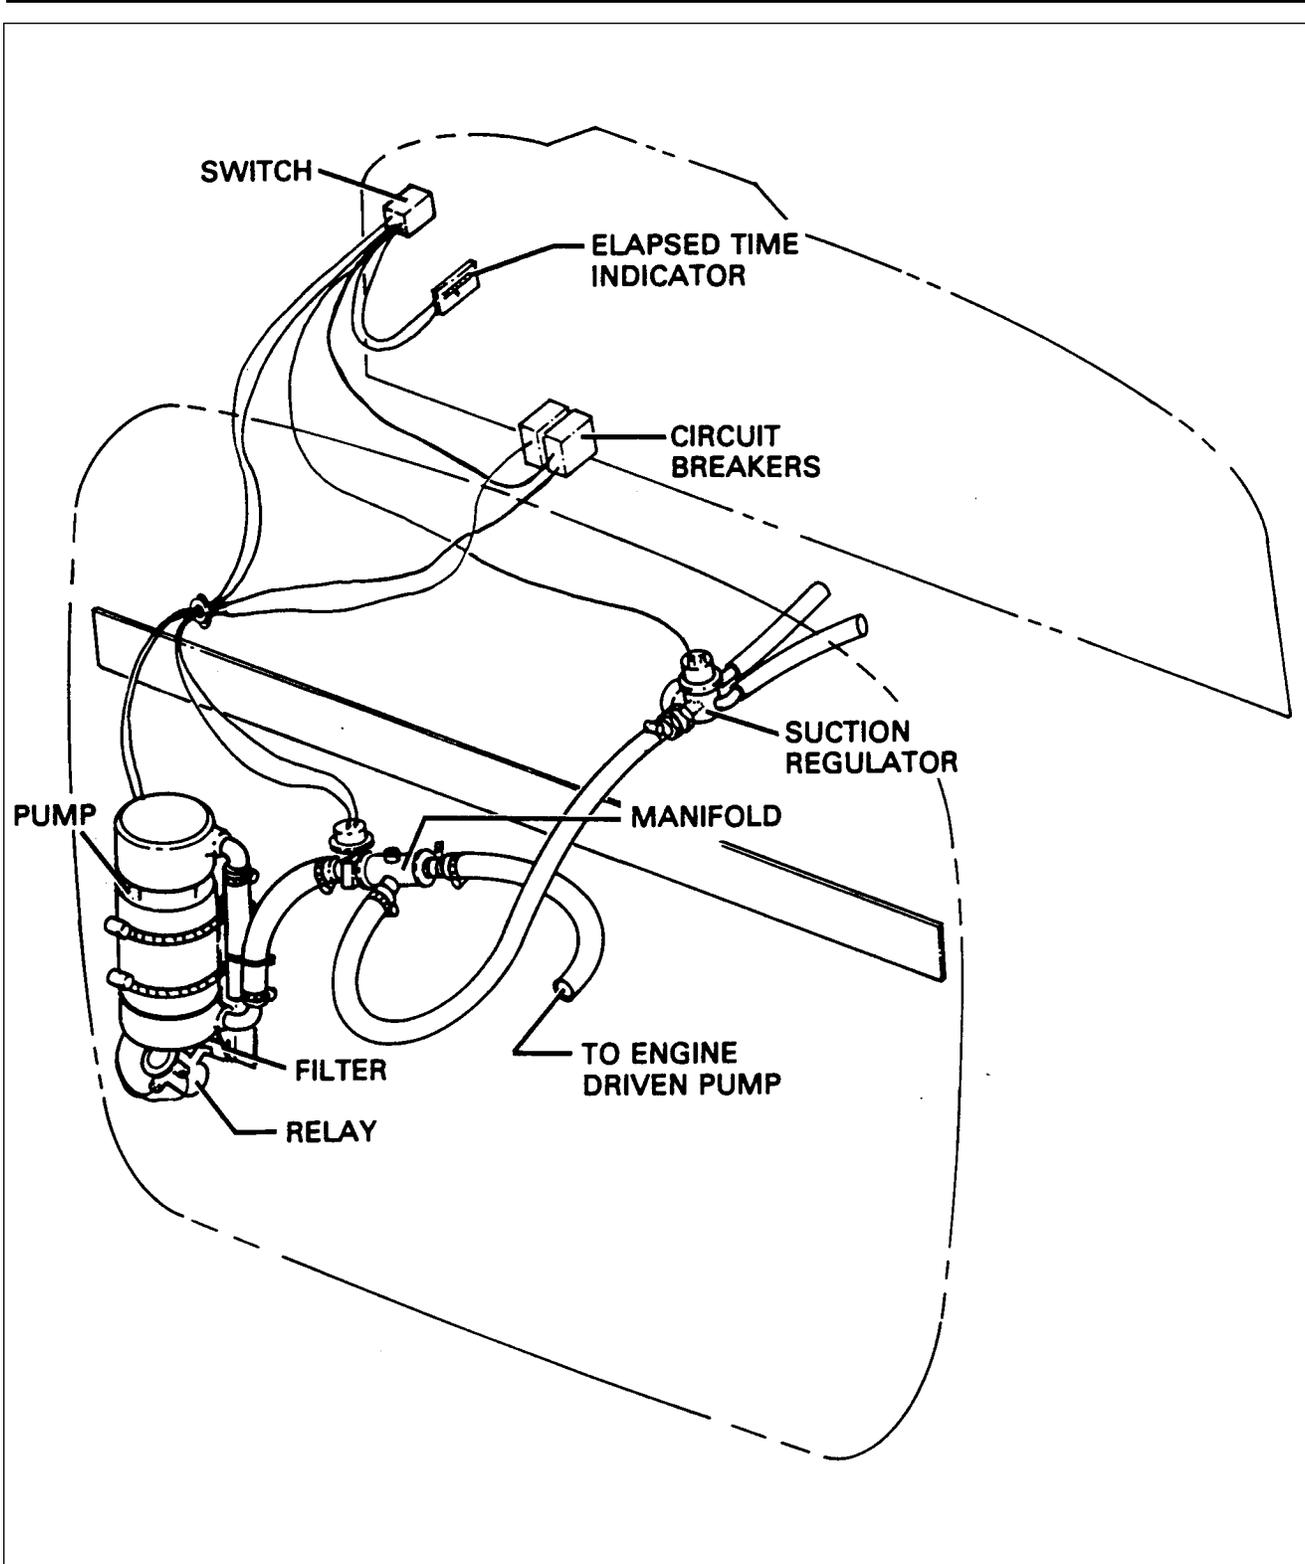

Figure 37-1. Auxiliary Vacuum Pump Installation
**AUXILIARY VACUUM PUMP (SERIAL NUMBERS 8611001 AND UP) (figure 37-1)**
9. Position pump/motor assembly as shown in figure 37-1.